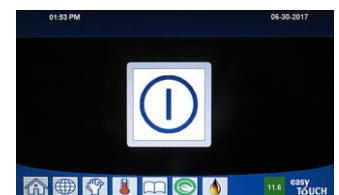

Figure 19
1. Ensure all controllers are OFF and in the standby mode (see Figure 19). Unplug any modems from the USB port if connected.